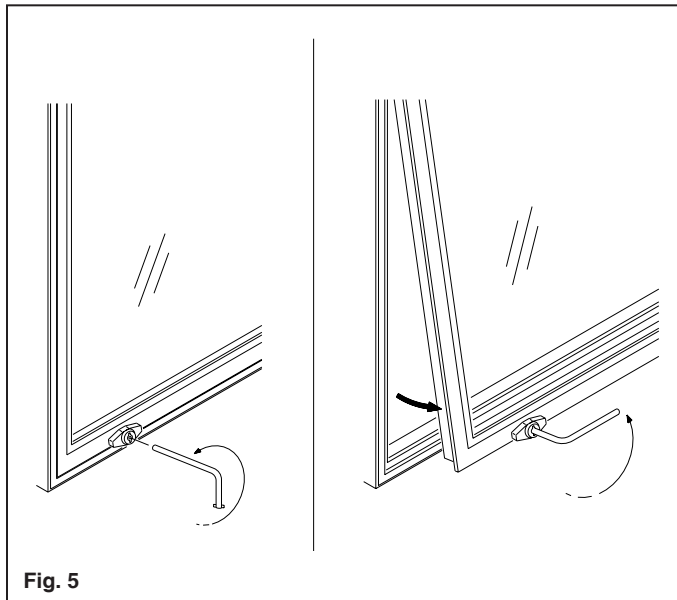

Fig. 5
B. This picture window comes with an interior sash that allows access for internal cleaning. The sash must be in the open position in order to install the window. An L shape janitor’s key should have come with the window for operating the locks on the interior sash. With the long end of the key, turn one lock counter-clock wise to unlock it. See **Fig. 5**. The lock is spring loaded, so a little pressure while turning is needed. Now, take the short end, the end with the two tabs, and unlock the second one. The key will remain in the lock and can be used as a handle for pulling the sash away.